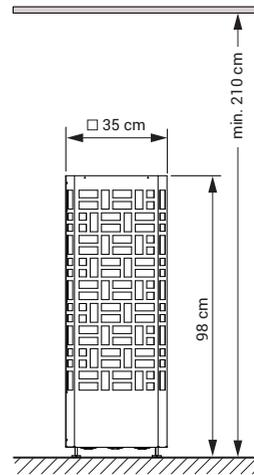

Fig. 1
- Observe at least 110 cm clearance between the upper edge of the heater and the cabin ceiling. (Fig. 1)